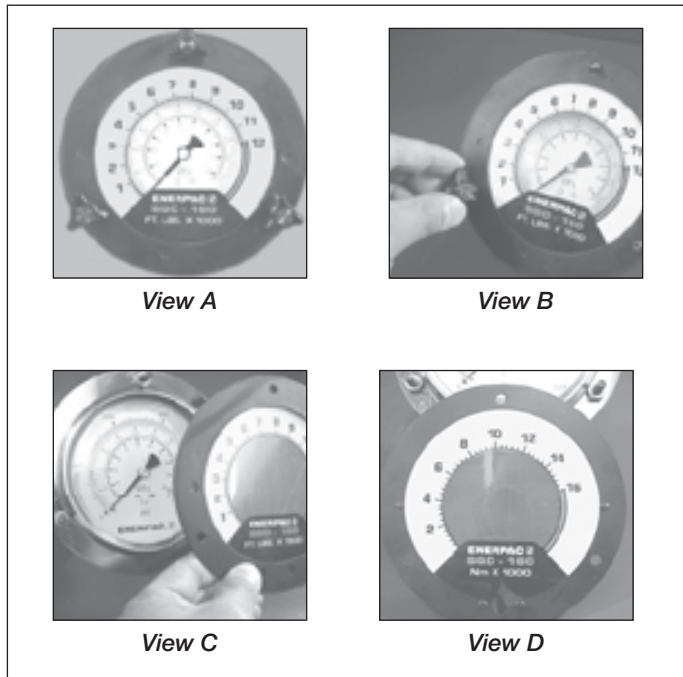

Figure 8, Overlay Installation
The pump is supplied with a pressure gauge installed. For your convenience, torque overlays are provided with each pump. A torque overlay fits over the pressure gauge dial face and easily converts pressure readings to torque readings (see Fig. 8, View A). The overlay has imperial units (Ft-Lbs.) on one side and metric units (Nm) on the other. To change scales simply slip overlay over.
1. Remove the three black wing knobs which hold the front gauge flange in place (see Fig. 8, View B).
2. Remove the front flange and overlay (see Fig. 8, View C).
3. Insert new overlay (remember to verify correct overlay to the Enerpac torque wrench being used) onto the flange, aligning the overlay with the dimples on the back of the flange (see Fig. 8, View D).
- While holding the overlay behind the flange (see Fig. 8, View C) insert the flange onto the knob studs, repositioning the overlay as needed, and secure knobs finger tight (see Fig. 8, View B). The flange will press the overlay onto the gauge and secure it in place. See torque wrench instructions for amount of pressure required to produce desired torque. Note that the maximum pressure varies for different wrenches and accessories.